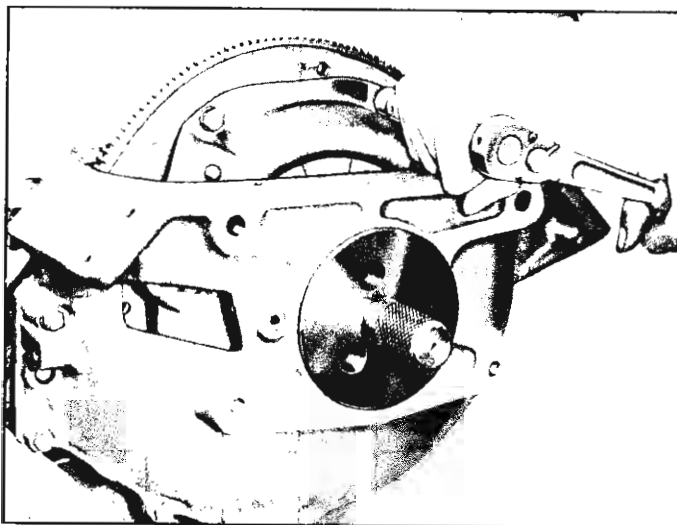

Fig. 108—Removing Clutch
- c. Install Tool J-5824 to support clutch during disassembly. Loosen clutch to flywheel bolts a turn at a time (to prevent distortion of clutch cover) until the diaphragm spring pressure is released (fig. 108). Remove all bolts, pilot tool, cover assembly and disc.